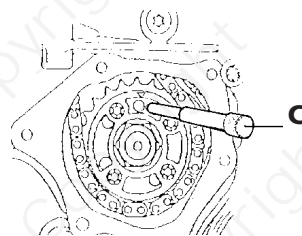

Fig. 3
3. The crankshaft locking pin **(D)** is used to set the crankshaft at TDC position. This tool is fitted through the crankshaft pulse pick-up opening in the engine block and locates into a slot in the crankshaft. (see Fig.3)